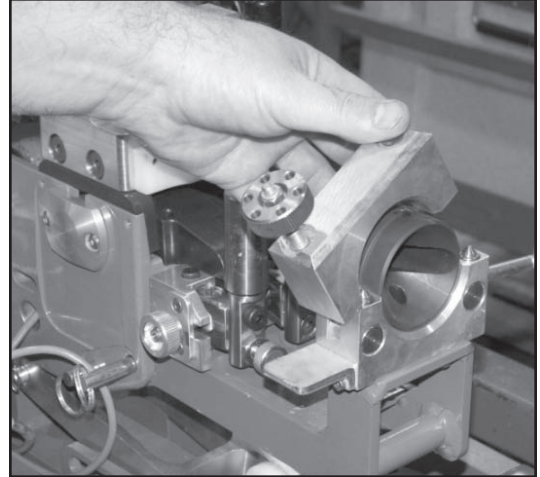

Figure 25
- B. Install Duct Guide in Rear Guide Bracket (Figure 25)